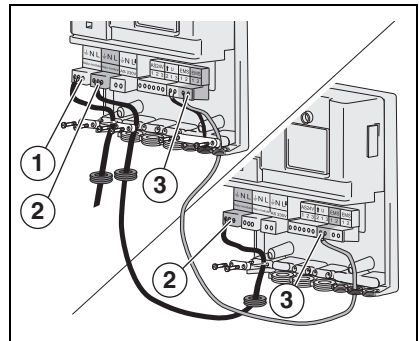

fig. 4 Connect two modules with each other, make mains connection
It is possible to connect several different modules (e.g. EM10 and VM10) to each other. To connect two or more modules, the mains connection (→ fig. 4, [2]) and the EMS connection (→ fig. 4, [3]) can always be interconnected.
- Connect the Logamatic RC thermostat to the EMS connection (→ fig. 4, [3]).
- Connect the 230 V AC mains supply (→ fig. 2, [1] and fig. 4, [1]).